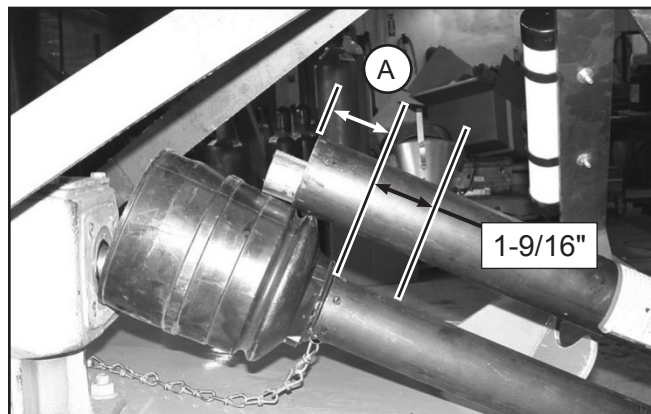

Figure 10. Determine Shield Length
5. Measure from end of the upper shield to the base of the bell on the lower shield (A). Add 1-9/16" to dimension (A). See Figure 10.